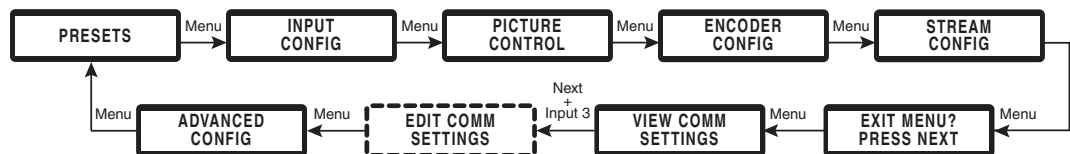

Figure 24. SME 100 Primary Configuration Menus
2. Press the Menu button repeatedly until the View Comm Settings menu is shown on the LCD display (see figure 24).